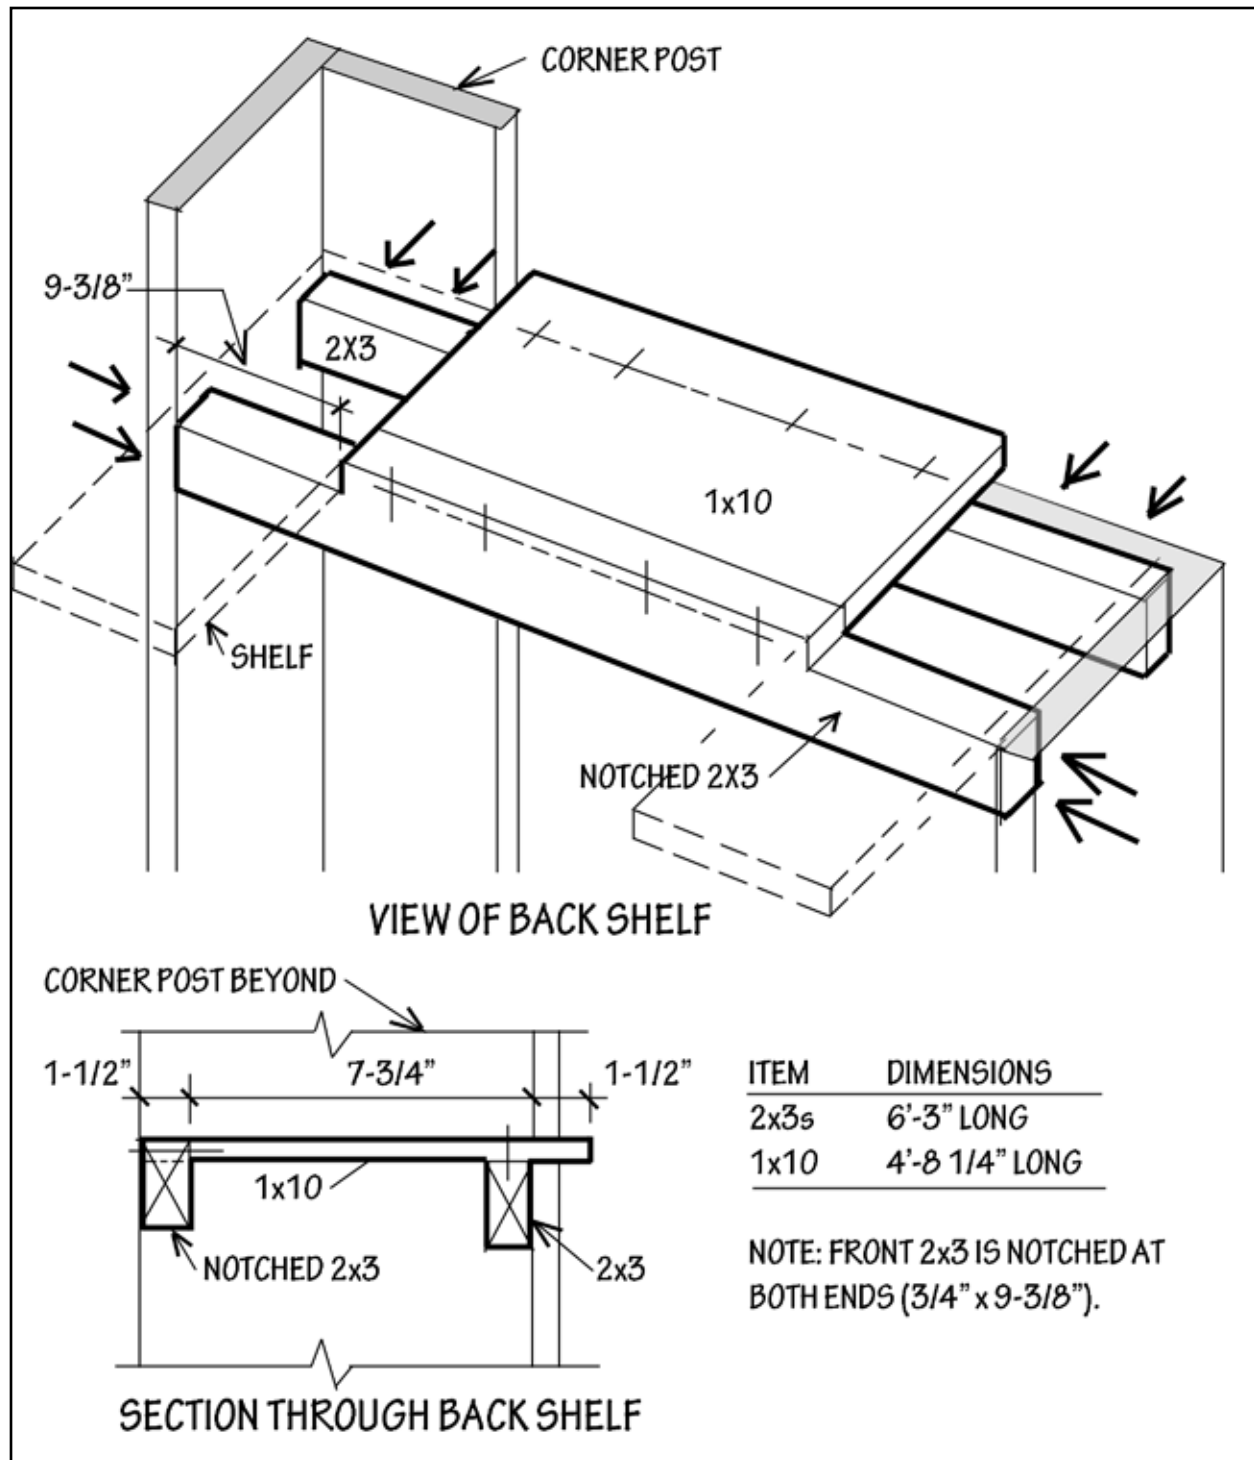

Figure 5. Fabrication and installation of back shelf
7. BACK SHELF. The construction and installation of the back shelf is shown in Figure 5. This shelf consists of a 1x10 board and two 2x3s screwed and glued to the 1x10 before it is attached to the corner posts of the bed. The front 2x3 is notched as shown in Figure 5 so that the two shelves on either side can be flush with the top surface of the back shelf. Once the 2x3s are glued and screwd into the 1x10, the shelf unit is placed so that the 2x3s that extend beyond the 1x10
the corner posts (from the outside of the posts). It is also a good idea to screw through the side shelves into notched 2x3 at both ends. These additional screws are not shown in Figure 5.